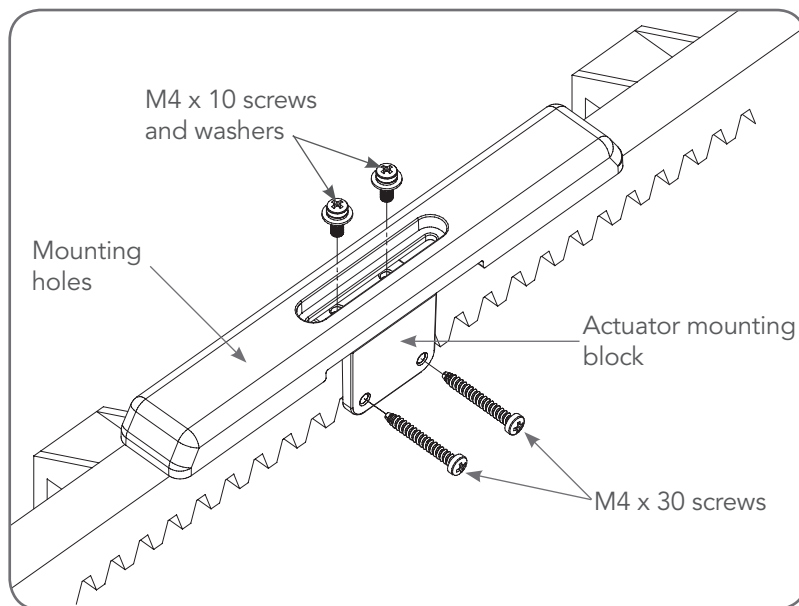

Fig 5.3
- Place start of limit actuator at marked position and move it 5 to 10mm towards the centre of the gate. Align the face of the limit actuator with the side of the rack and screw the limit actuator to the rack (**Fig. 5.3**).